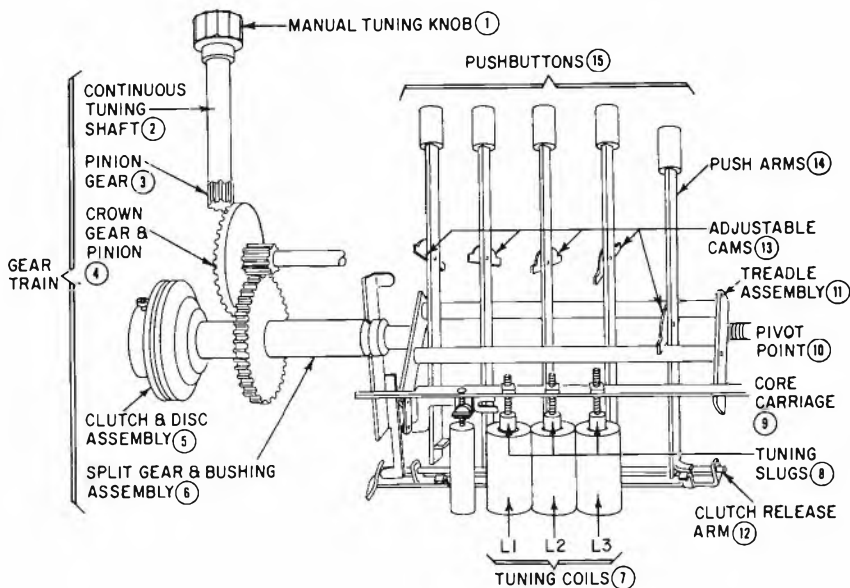
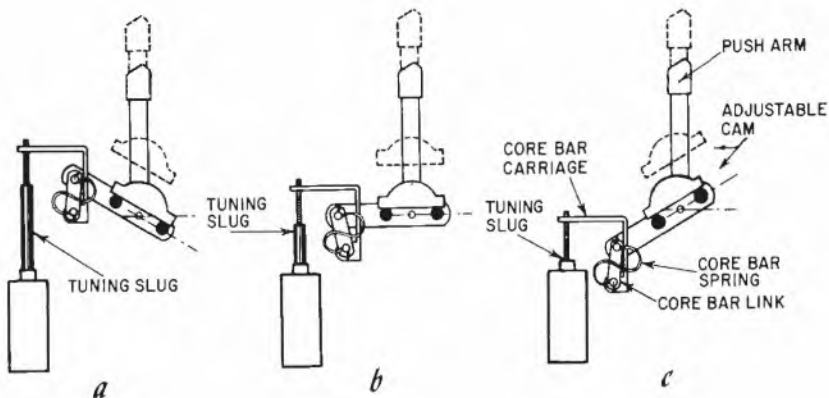

Fig. 603. *Deluxe auto radio pushbutton tuning unit incorporating manual and search tuning systems.*
Fig. 604. Three different angles of cam action in pushbutton tuning.
A typical pushbutton tuning unit is shown in Fig. 603. The unit illustrated is the pushbutton tuning section of a deluxe tuner that normally includes manual and search tuning controls as
When a pushbutton (15) is pressed, the push arm operates the clutch release arm (12) to disengage the clutch and disc assembly (5). This in turn isolates the split gear and bushing assembly (6) and the entire gear train to the manual tuning knob (1). This prevents the manual tuning system from rotating when a pushbutton is operated. As the push arm moves in, the adjustable cam, which is locked at this time, pushes against the treadle assembly, which rotates on its pivot point (10). The treadle assembly stops when it assumes the angle determined by the locked cam. Through this action, the tuning slugs (8) that are ganged to the core carriage (9) are simultaneously positioned in their associated tuning coils to select the desired station. The action on the ganged tuning slugs of cams adjusted at three different angles is illustrated in Fig. 604. When the pushbutton is released, the clutch release arm (12, Fig. 603) engages the clutch and disc assembly, which again ties the continuous tuning gear train to the treadle assembly. This action locks the tuner on station.
To preset pushbuttons to the desired stations, the radio is first tuned manually to the first station to set the treadle assembly (11, Fig. 603) to the angle that corresponds to the desired station. The pushbutton is then unlocked (by pulling it out or by unscrewing it several turns) to release the adjustable cam on the pusharm. When the pushbutton is depressed, or depressed and screwed in, the adjustable cam is locked in the angular position determined by the setting of the treadle assembly.